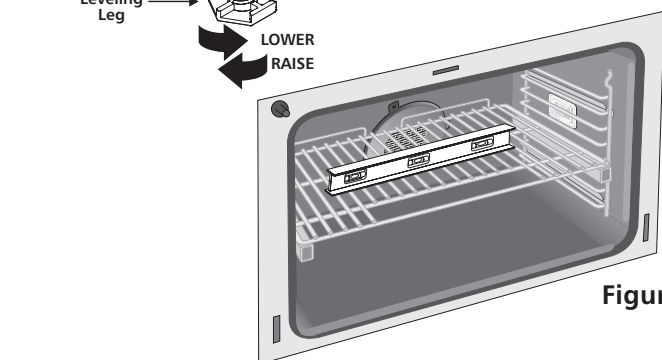

Figure 10
3. Check if the range is level by installing an oven rack in the center of the oven and placing a level on the rack (Figure 10).